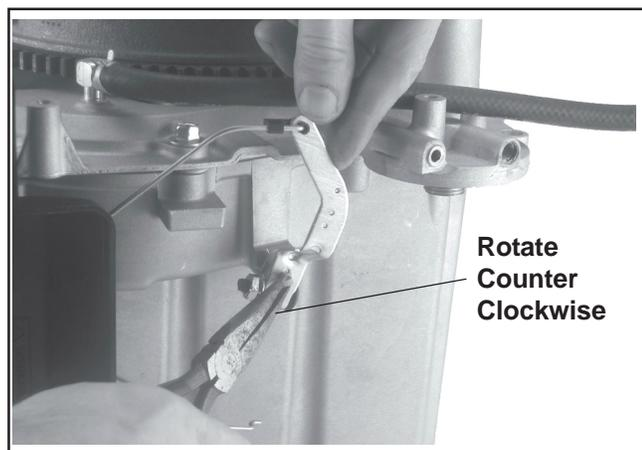

Figure 10-64. Adjusting Governor and Linkage.
2. Move the governor lever toward the carburetor, to the limit of its travel (wide-open throttle) and hold in this position. Do not apply excessive pressure, flexing or distorting the linkage. Grasp the cross shaft with a pliers, and turn the shaft counterclockwise as far as it will go. See Figure 10-64. Torque the hex. nut to **7.0-8.5 N·m (60-75 in. lb.)**.